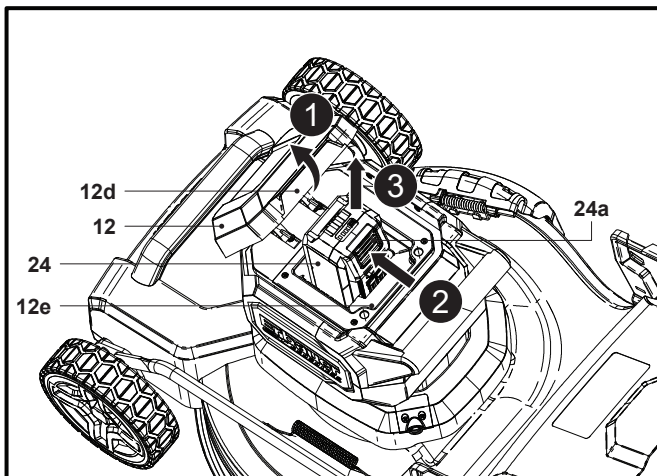

Fig. 8
1. Hold the lip (12d) and open the battery compartment cover (12) (Fig. 8, step 1).
2. Press down the release button (24a) to unlock the latch of battery pack (24) (Fig. 8, step 2).
3. Slide out the battery pack (24) from the battery compartment (12e) (Fig. 8, step 3)
4. Close the battery compartment cover (12).